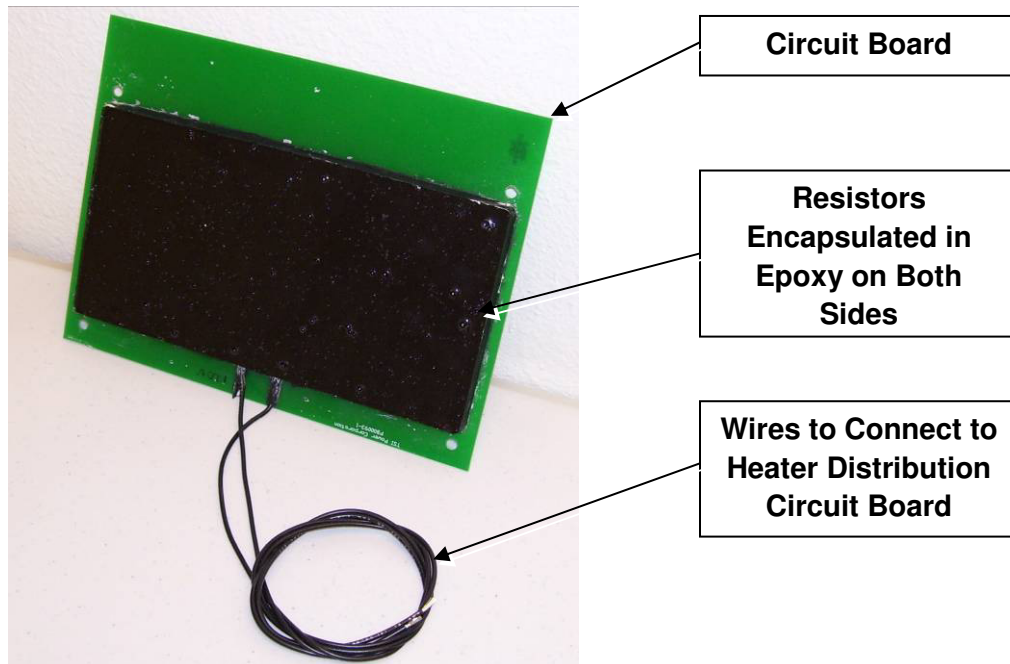

Figure 17: Optional BH5 Battery Heater
7.1 OPTIONAL BH5 BATTERY HEATER – The optional battery heating pads are constructed from printed circuit boards with resistor networks that are encapsulated in epoxy. The AC current flows through the resistors to generate heat. By being pressed against both internal walls of the batteries, the batteries are heated. The standard Outdoor XUPs-1500-7070 requires four BH5 battery heaters. See Figure 17.